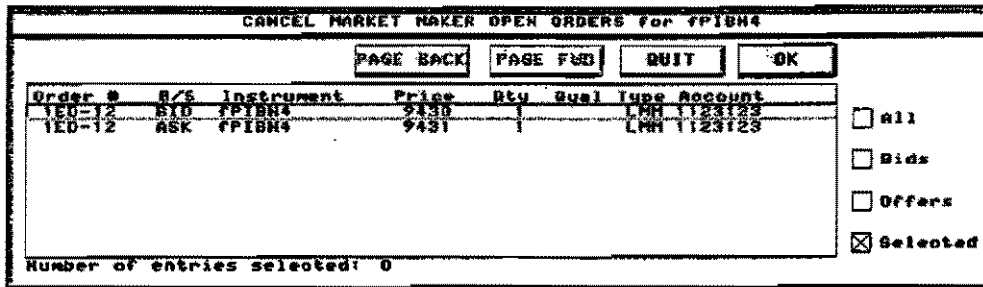

Figure 8.4 Cancel Market Maker Open Orders Dialog Box
- Press **QUIT** if you cannot see the cursor in the dialog box, or double-click the mouse anywhere in the dialog box except in a value field. The Cancel Market Maker Open Orders by Instrument dialog box is displayed, showing all active market maker orders for the instrument. (See Figure 8.4.)